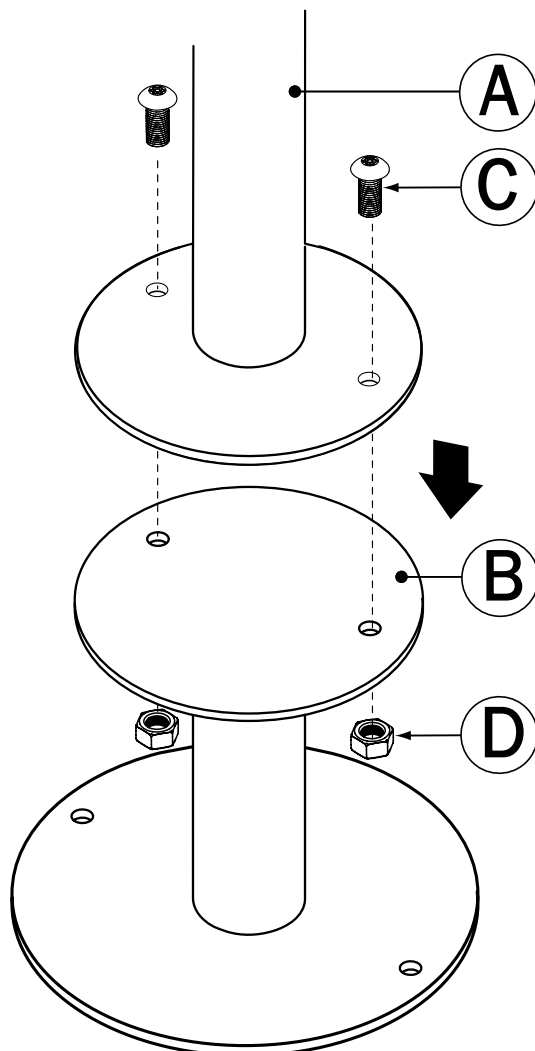

Figure 1.
1. Locate (4) Lower Posts(A).
2. Connect Footer(B) to Lower Post(A) using (2) Bolts(C) and (2) Lock Nuts(D). See Figure1.